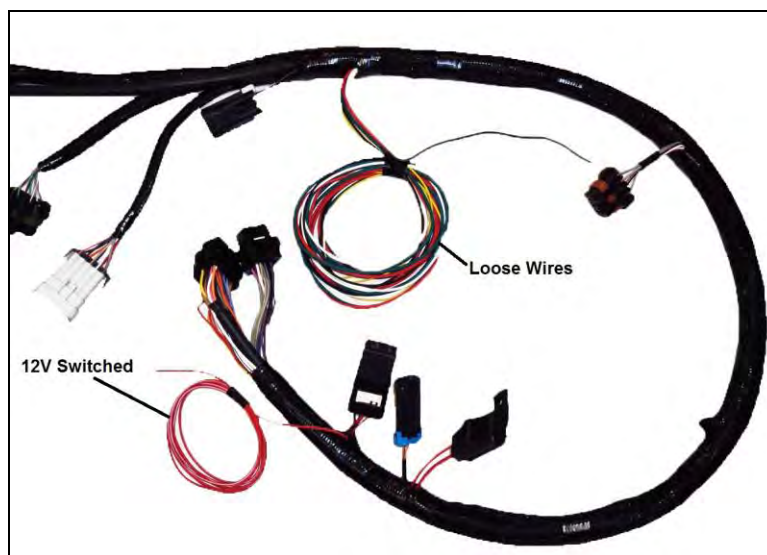

Figure 24
**12V Switched – Color = Red/White** – Should be connected to a clean +12 volt power source. Power source should only be active when the ignition is on. Make sure source has power when engine is cranking as well (check with voltmeter). Not all sources apply power when the ignition switch is in “cranking” position. This wire is located approximately 7” from the ECU connectors. **Refer to Figure 24.**